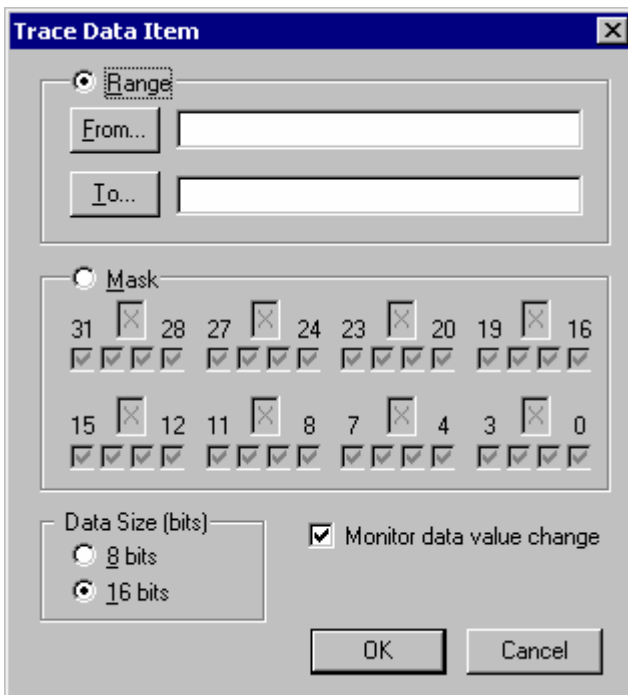

Figure 51. Event Q Data Item dialog
- In the 'Data Item' dialog (Figure 51), check the 'Monitor data value change' option and set '16 bits' for the Data Size since 16-bit variable is going to be monitored.